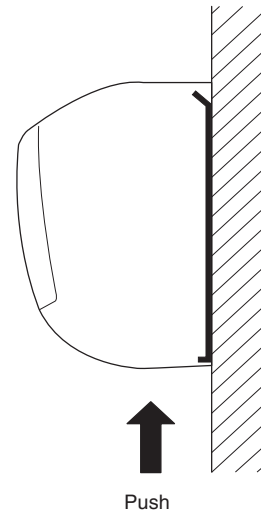

Fig. 1-177
- (3) Press the 2 Δ marks on the lower part of the indoor unit and unlatch the tabs. Then lift the indoor unit and unmount. (Fig. 1-177)